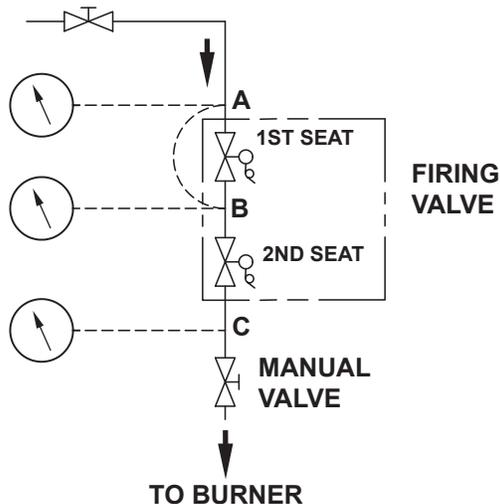

Figure 75. Leak Test Procedure
Test point C is a bleedle valve located downstream of both automatic gas valve seats and upstream of the manual valve. See **Figure 75**.
- a. Close downstream manual gas valve. See **Figure 75**. Turn power on.